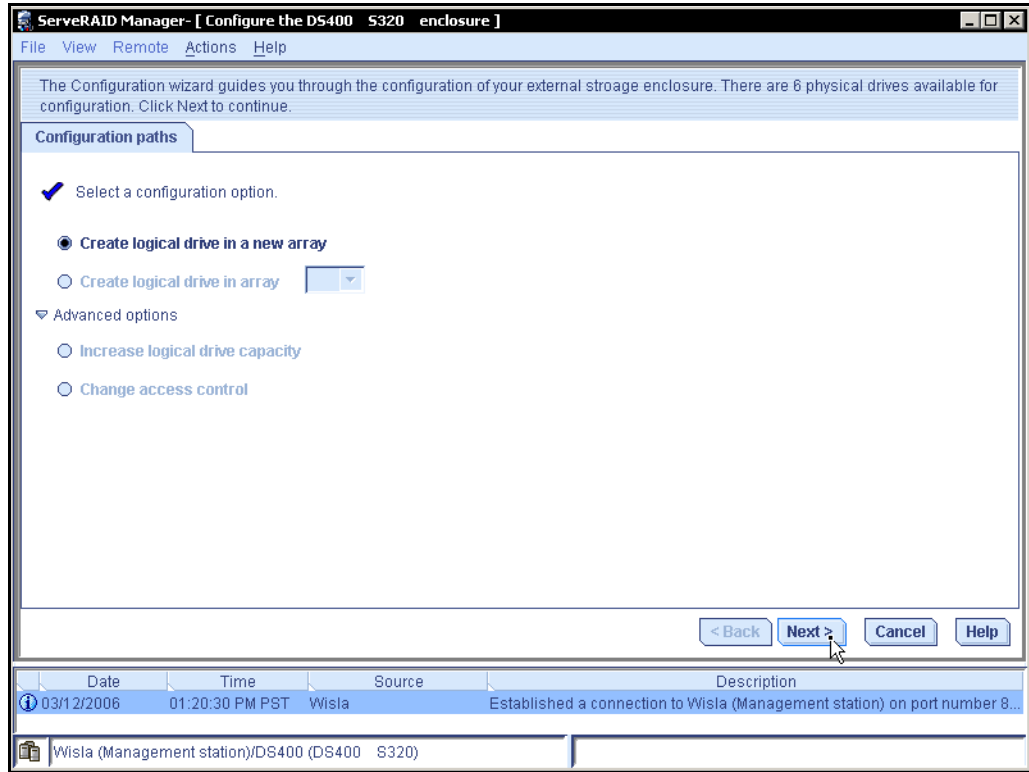

Figure 38 Configuration options
2. Select a configuration option, and click **Next** as shown in Figure 38.